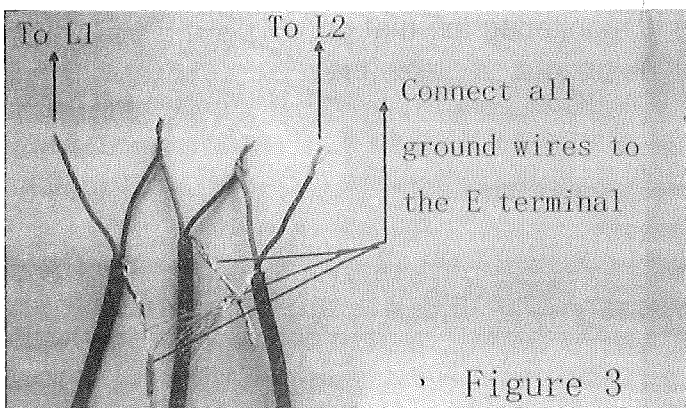

Figure 3
2. FOR UP TO THREE MATS OR CABLES: Connect one lead wire (not the earth wire) from one mat or cable into the L1 terminal. Connect one lead wire (not the earth wire) from a DIFFERENT mat or cable into the L2 terminal. Now connect the remaining lead wires so that the mats or cables are in "series" with one another. If this is not done properly, the FWC Alarm may not correctly monitor the mats or cables. Finally, connect all the earth wires from the mats or cables together to the E terminal (see *Figure 3*).